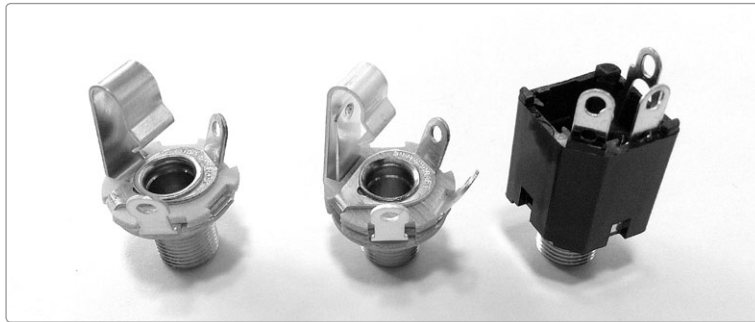

FIGURE 7-4: A standard mono jack (left), a generic switch jack (center), and a Switchcraft 112AX switch jack (right)
In this section, you'll work with two kinds of mono phone jacks: normal and switch jacks. The normal mono jacks, shown at the far left of Figure 7-4, will be familiar if you've ever seen or handled a guitar, amplifier, or stomp box. The switch jacks, shown in the middle and on the right, are a little special. When nothing is plugged into a switch jack, the signal goes to the device's built-in speaker. When you plug something in, the internal speaker is disconnected, and the signal is routed instead to the external amp. If you're planning to replace the toy's original speaker altogether, use a normal mono jack. If you want to keep the original speaker and don't care that the built-in speaker makes sound even when the toy is plugged into an amp or effect, then a normal jack is still fine. But if you want the toy to automatically mute the built-in speaker when you plug into your amp or effect, then you want to install a switch jack.
Choose a jack. For plain old jacks, I'd go with the Switchcraft L11, shown at the far left of Figure 7-4. It's Digi-Key part #SC1085-ND or Mouser part #502-L-11. (Always check both, as there can be a pretty big price difference, especially once you work in shipping and handling.) The middle jack in Figure 7-4 is a Switchcraft 12A, which is the switchable version of the standard Switchcraft mono jack. This open-style switch jack is nice because its internal mechanism is entirely visible, making it
a little easier to understand if you're new to electronics. Its only drawback is that it looks an awful lot like a standard mono or stereo jack. If you have a jumbled box of mixed jacks (as I do), it's easy to miscount and get halfway through a project before realizing you don't have the jack you thought you had. For that reason, my preferred switch jack is the partially enclosed Switchcraft 112AX, shown at the far right of Figure 7-4. It's the same jack used in the Plasti-Pickup (Project 2), Digi-Key part #SC1316-ND or Mouser part #502-112AX, and it's very easy to distinguish from mono and stereo jacks.
2. That's the lug mounted at an angle on the corner of the plastic housing; see Figure 7-4 for a clearer picture.